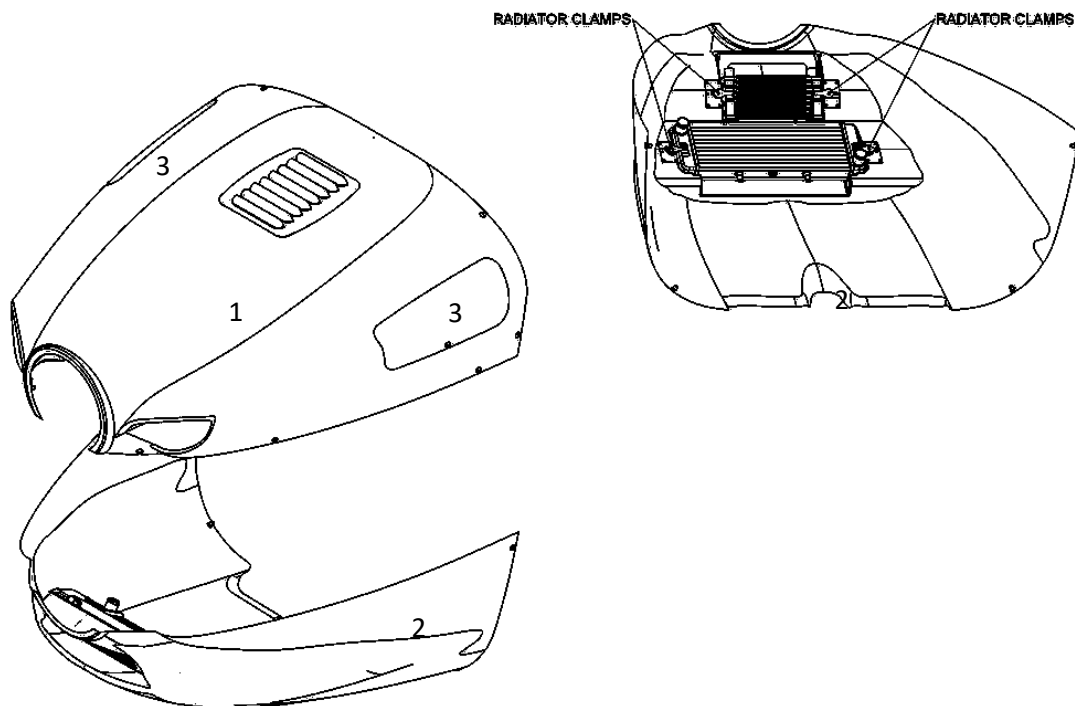

Figure 43: Engine cowling.
Refer to Figure 43. The engine cowling is made up of moulded fibreglass upper (1) and lower (2) parts. Inspection panels (3) are located in the top cowling and are secured down by two Dzus fasteners. The cowling houses the engine, air filter, coolant radiator, oil radiator and oil reservoir. Air to the air filter is provided through the right side intake. Circulation over the engine is provided by the front nose intakes. Additional circulatory air is supplied through the coolant and oil radiators. The outflow area is on the underside of the cowling, by the firewall.
2. Disconnect the air filter supply pipe (1) from the cowl inlet (2) by loosening the clamp (3) securing it to the inlet.
4. Release the four catches (4), one on each side of the coolant (5) and oil radiators (6). Also refer to Figure 43.